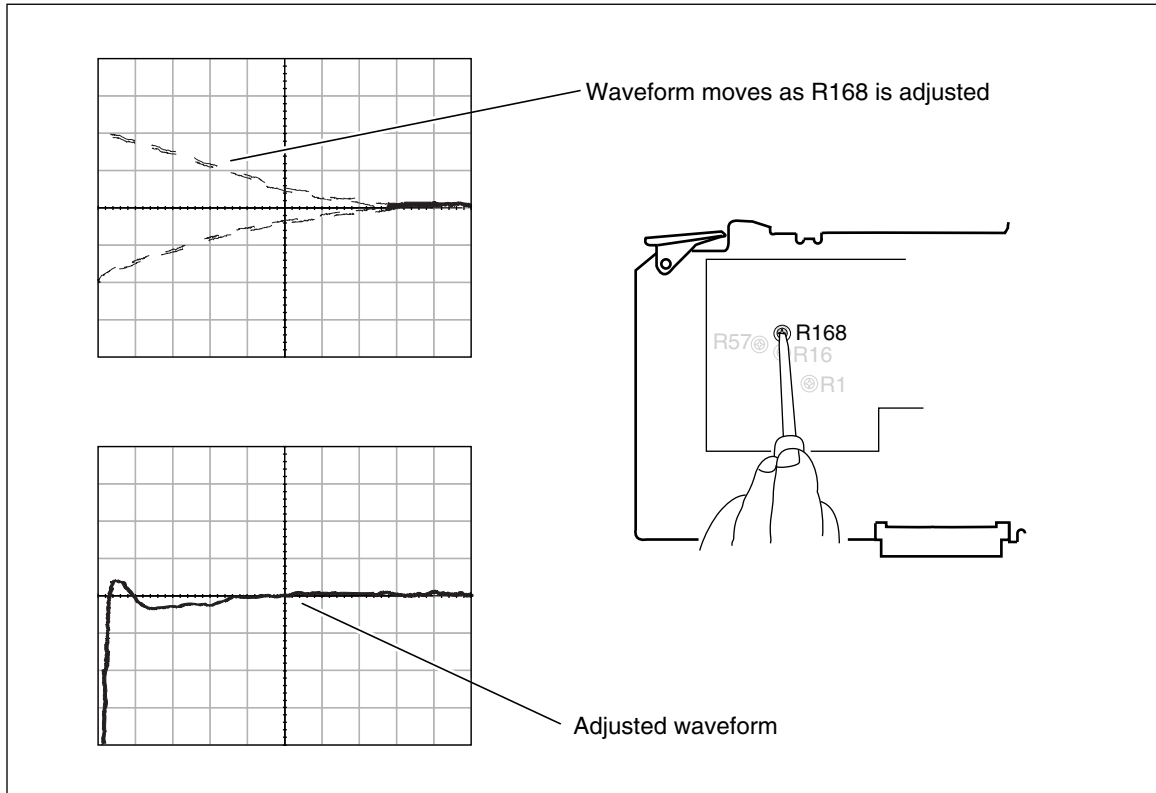

Figure 6-16. Adjusting the Wave Peak Center with R168
3. Slowly adjust pot R168 and observe its effect on the waveform. the left half of the wave peak will move up and down as you turn R168. Adjust R168 until the center of the wave peak is half of a division above the center line, as shown in Figure 6-16.